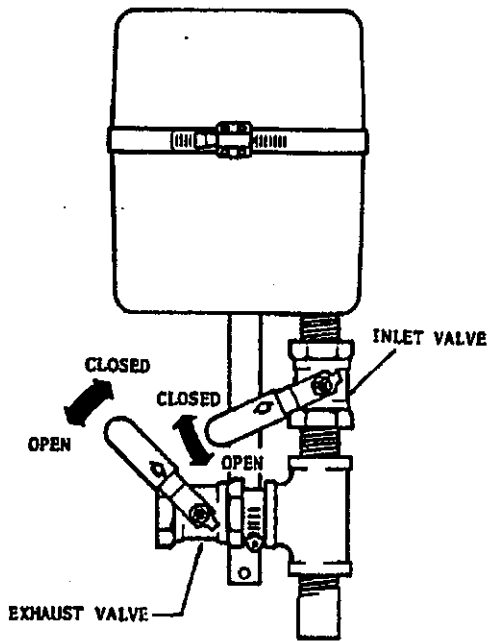

FIGURE 9. BLOWER AND VALVE ASSEMBLY
11. (ALL) Open the exhaust valve (see Figure 9) and then stand on the rear of the hoist.
17. (ALL) Open the inlet valve (See Figure 9.) and start the blower.